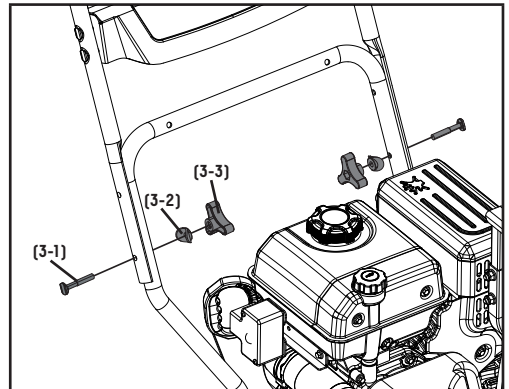

Figure 3
1. Connect the upper handle and lower handle with 2 bolts (3-1), 2 washers (3-2) and 2 locking knobs (3-3) only on the bottom – keep them loose so you can fold the handle down in the next step (Fig. 3).